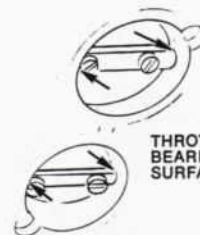

FIGURE 6:
- Throttle shaft bearing surfaces (Figure 6)